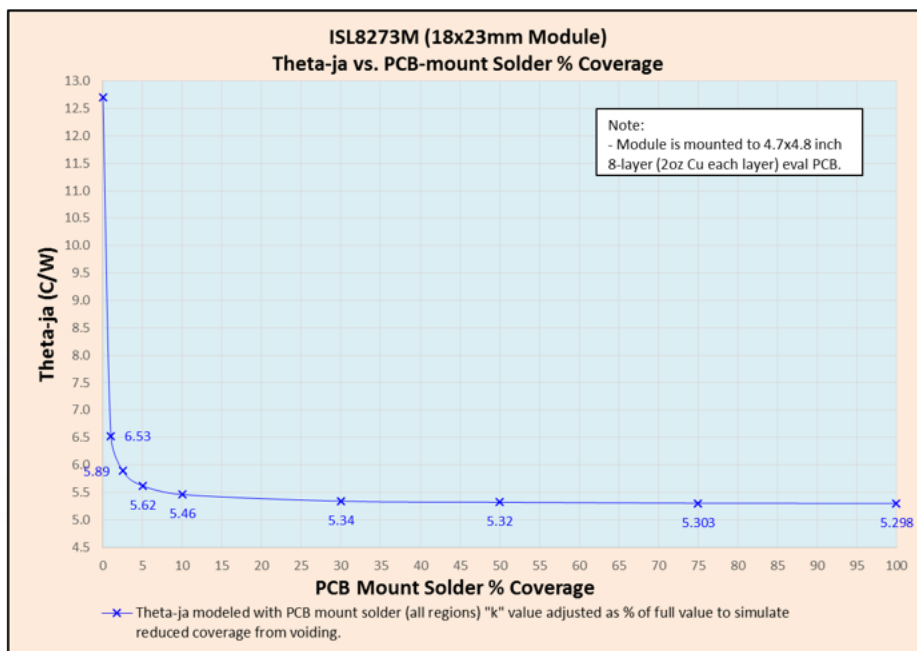

FIGURE 7.  $\theta_{JA}$  vs PCB-MOUNT SOLDER % COVERAGE
- Solder voids have minimal impact on thermal performance as shown in Figure 7